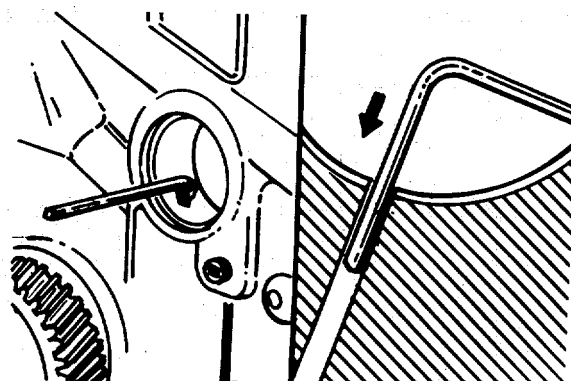

FIGURE 4-93. Check Oil Hole Alignment.
- i. A 3.2mm (0.128") diameter rod must be able to pass through the oil hole. (FIGURE 4-93)